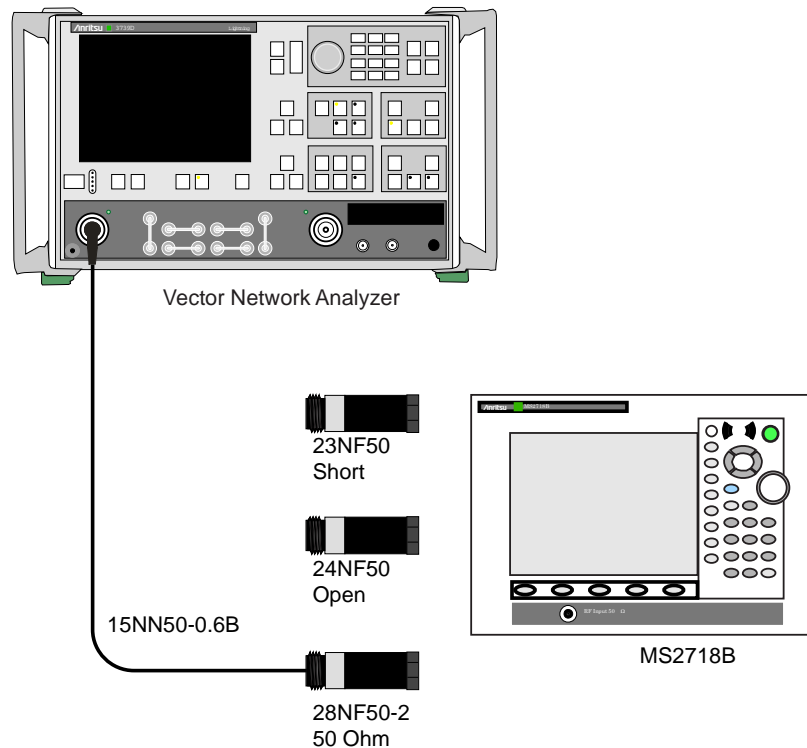

Figure 2-10. RF Input VSWR Calibration Setup
1. On the Anritsu Model 37x47x VNA, install an Anritsu Model 34NKF50 adapter on Port 1. Install a 15NNF50-1.5B cable on Port 1 of the Model 37x47x VNA so that the test port (open end of cable) is the male connector. Refer to Figure 2-10.
- Next Cal Step / Port 1 Connector = Type N (M) / Start Cal